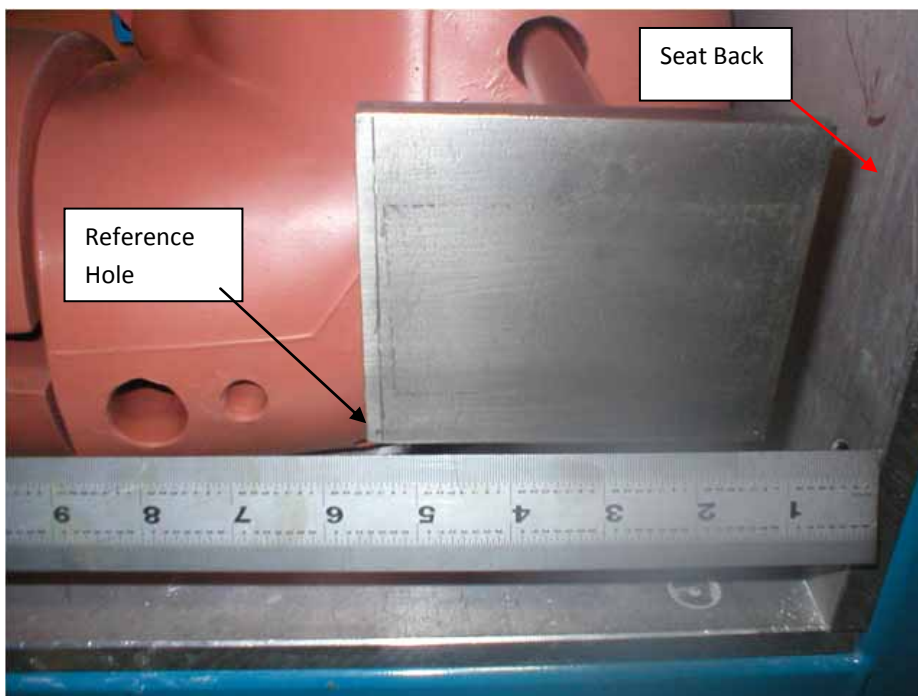

Figure 118 - Measurement Starting Position
3. Position the lower torso so the H-Point reference hole on the H-point tool is a distance of 5.3 – 5.5 inches from the back (rear) of the seat on both sides of the dummy as shown in Figure 118.